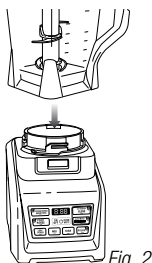

Fig. 2
- 5 Align and lower the pitcher onto the motor base. **(Fig. 2)** Handle should be aligned slightly to the right of the "LOCK" symbol on the motor base.